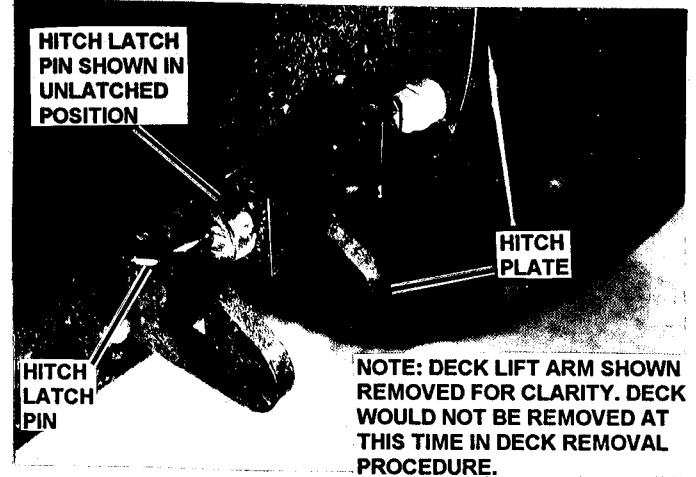

FIGURE 3.11
3. Rotate spring loaded hitch latch pins (Located on both hitch plates) to the unlatched position. See Figure 3.11.